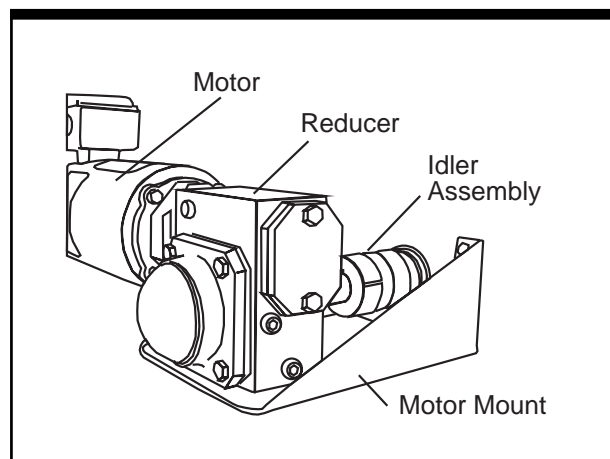

Figure 3-5. CapStar Speed Reducer
**Speed Reducer—No Lubrication Required.** The speed reducer used in the CapStar is lubricated for life with synthetic lubricant and requires no regular maintenance (see Figure 3-5).